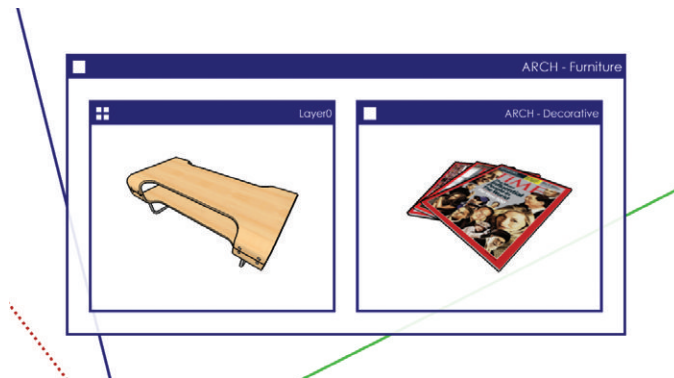

Figure 19.2 MOD representing magazines resting on a coffee table
- ☑ Add decorative objects within the ARCH - Furniture container (Figure 19.1, Figure 19.2). Tables without food, magazines, or other details are boring. Such details are the objects that make a scene realistic; however, you don't want them to render in the furniture plan.